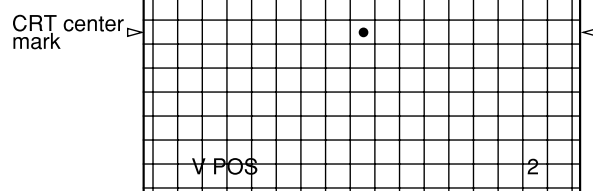

Fig. 1-2
- Using the volume keys on the jig remote controller, adjust the dot mark to the exact vertical centre position in the crosshatch screen. (Fig. 1-2)